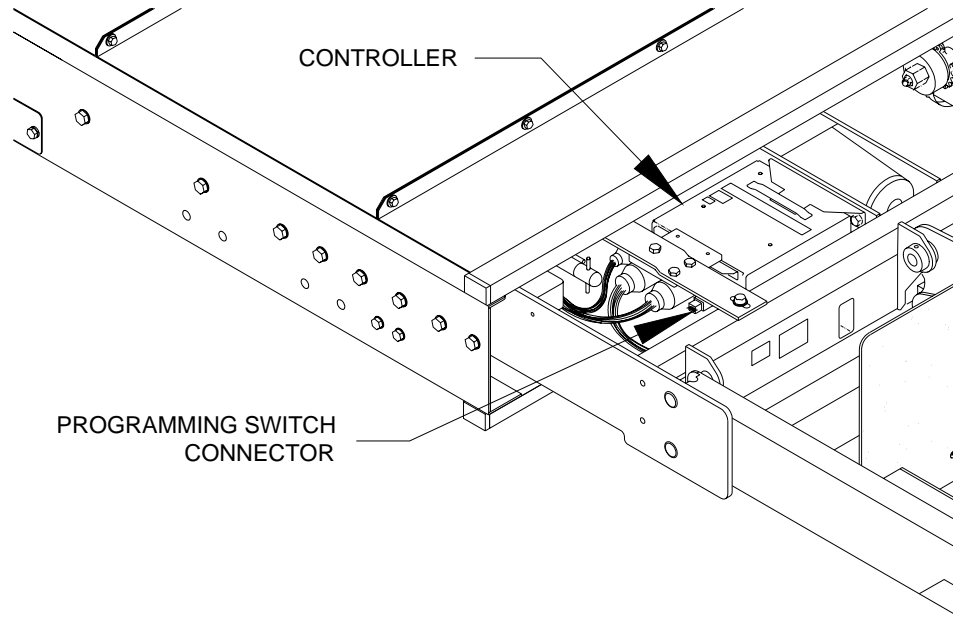

FIGURE 2-5: PROGRAMMING SWITCH CONNECTOR
- 7) Refer to **Figure 2-5**. The mating connector for the programming switch is attached to the underside of the controller bracket. The connector is protected with a removable plug. Connect programming switch to connector.
3) Refer to **Figure 2-5**. The mating connector for the optional programming switch is attached to the underside of the controller bracket. The connector is protected with a removable plug. Connect programming switch to connector.